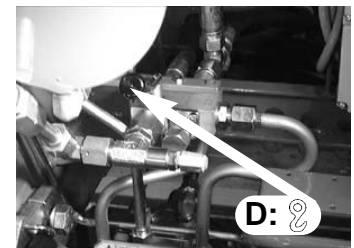

fig. 20a
- Lever **D** Deviator crane - outriggers (☞ - E/S). Fig. 20a-20b
- Unfold the crane into a working condition, positioning lever **D** of oil diverter crane-outriggers ( - **E/S**) on  **E/S**. Fig. 20a